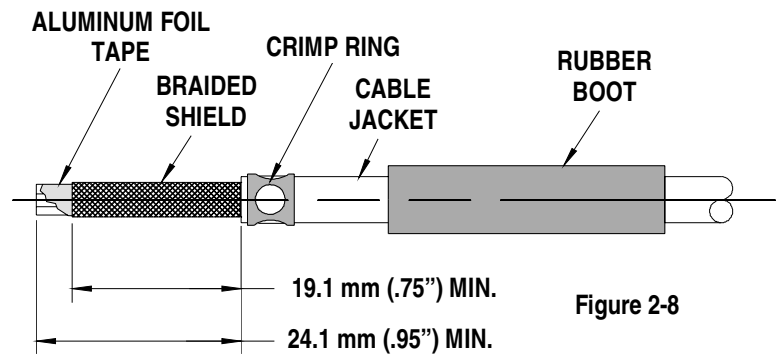

Figure 2-8
4. Trim the cable jacket and braided shield to the dimensions shown in Figure 2-8.